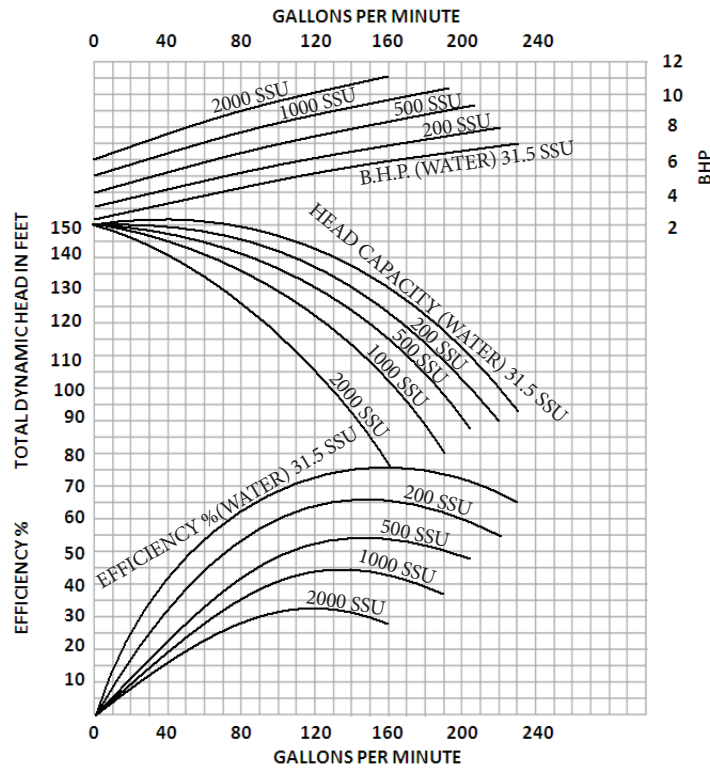

Figure 3.1: Pump Performance at Various Viscosities
3. Using the chart shown on page 12 (Figure 3.1), answer this question: If a fluid has a viscosity of 1000 SSU and is being pumped at 90 gallons per minute, how does the efficiency compare if you were pumping water (SSU of 315)?